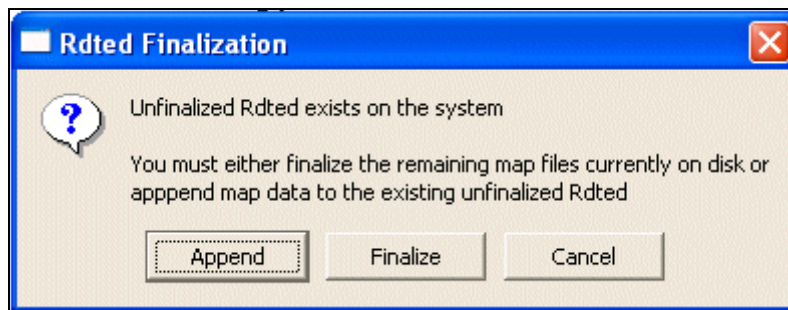

Fig. 43 — RDTED Finalization window
- b. If unfinalized RDTED exists on MMCP C and the user wishes to keep partial RDTED map files and finalize, click Process, then RDTED, then Finalize (Fig. 43).
- d. If unfinalized RDTED exists on MMCP C and the user wishes to process more DTED data, click Process, then RDTED, then Append (Fig. 43). Verify the Finalize Automatically button is selected when processing the last set of DTED data.